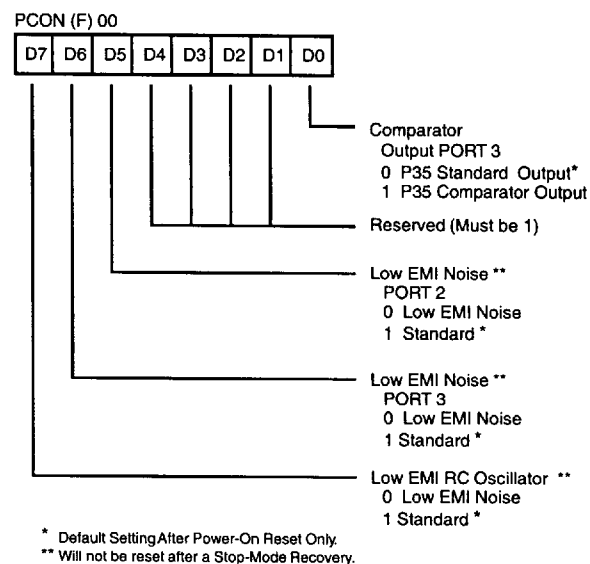

Figure 9. PORT Configuration Register (PCON)
**PORT Configuration Register (PCON).** The PORT Configuration Register (PCON) configures the ports to support comparator output on Port 3, low EMI noise on Ports 2 and 3, and low EMI noise oscillator. The PCON Register is located in the Expanded Register File at bank F, location 00 (Figure 7). Bit 0 controls the comparator use in Port 3. A 1 in this location brings the comparator output to P35 (Figure 9), and a 0 releases the port to its standard I/O configuration. Bits 5 and 6 of this register configure ports 2 and 3, respectively, for low EMI operation. A 1 in these locations configures the corresponding port for standard operation, and a 0 configures the port for low EMI operation. Finally, bit 7 of the PCON Register controls the low EMI noise oscillator. A 1 in this location configures the oscillator with standard drive, while a 0 configures the oscillator with low noise drive.
**Comparator Inputs.** Port 3, P31 has a comparator front end where the comparator reference voltage is provided by P33. In analog mode, the P33 input functions as a reference voltage to the comparators. The internal P33 register and its corresponding IRQ1 are connected to the Stop-Mode Recovery source selected by the SMR. In this mode, any of the Stop-Mode Recovery sources are used to toggle the P33 bit or generate IRQ1. In digital mode, P33 can be used as a P33 register input or IRQ1 source (Figure 9).